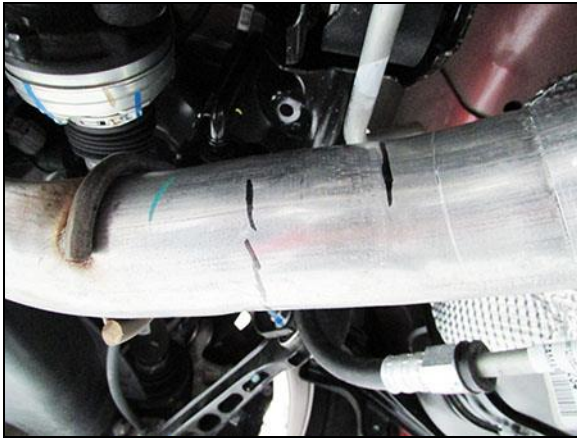

Figure 1 (Left Side)
3. From under the vehicle, locate these 2 sections of the OE mid pipe (**Figures 1 & 2**). This section is right before the (x2) front most exhaust hangers after the OE X-pipe.